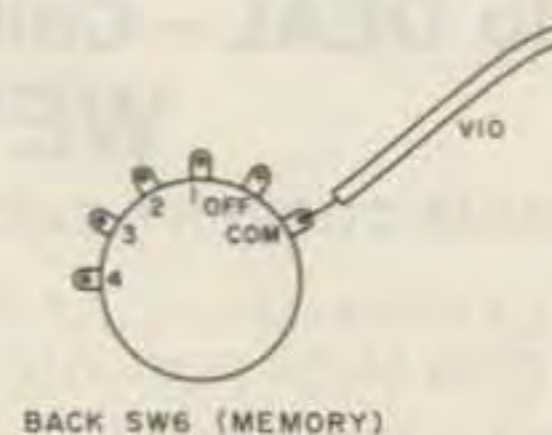

Fig. 3.
6. Locate SW6 (Fig. 3) and lift the violet wire from the tab marked "COM".